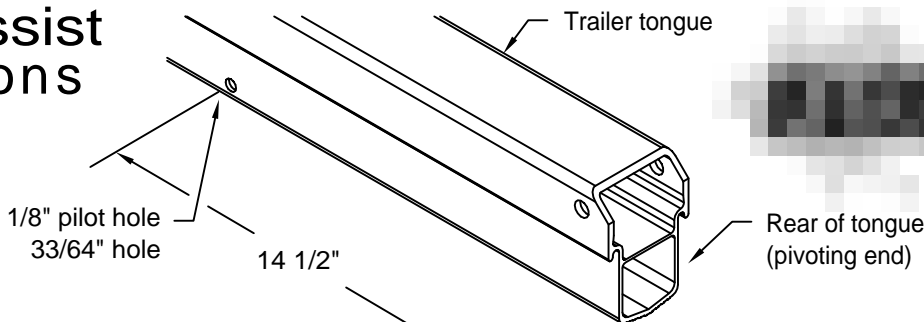
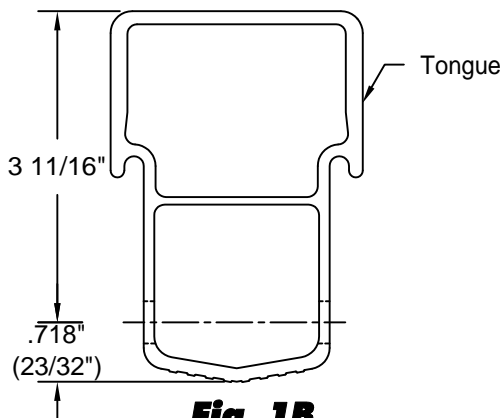

Fig. 1A
Fig. 1B
1. Measure from rear (pivoting end) of tongue forward 14 1/2" and drill a 1/8" pilot hole 23/32" from the bottom of the tongue thru both sides. See Fig 1A and Fig 1B. Drill 33/64" (1/2" will also work) hole thru the pilot hole.